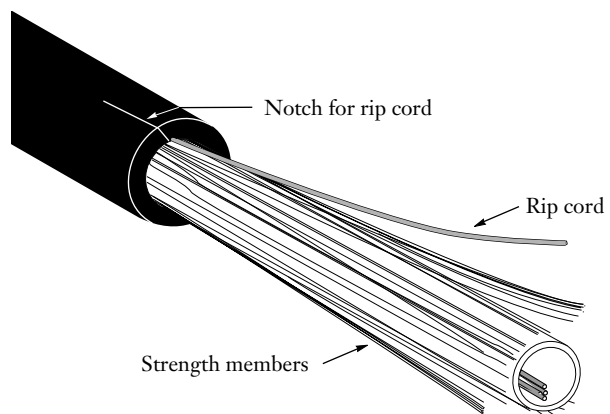

Figure 6
4.6 At the cable end, separate the rip cord from the strength members of the cable (Figure 6).